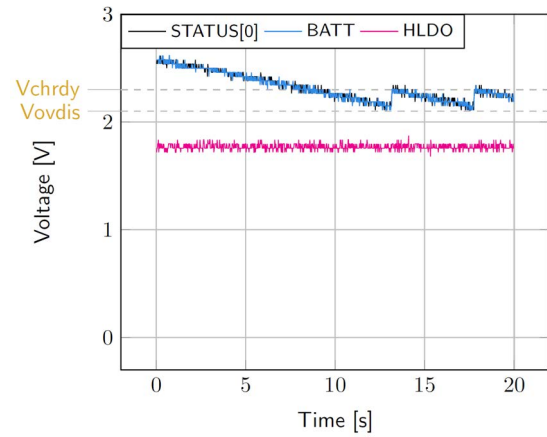

Figure 6: Switching from **SRC** to the primary battery
- **BATT**: Voltage decreases as the system consumes the power accumulated in the storage element. The voltage reaches V_{OVDIS} and then rises again to V_{CHRDY} as it is recharged from the primary battery (see Figure 6).
- **STATUS[0]**: Never de-asserted as the LDOs are still functional (see Figure 6).
- **HVOUT**: Stable and not affected by switching on the primary battery (see Figure 6).